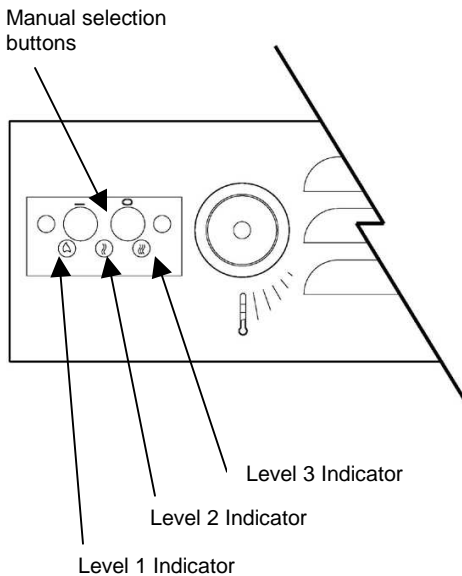

FIGURE 12
4. Press — (on) button located on the remote control Manual Selection Control for **3 seconds** (FIGURE 12). All 3 indicators will flash.